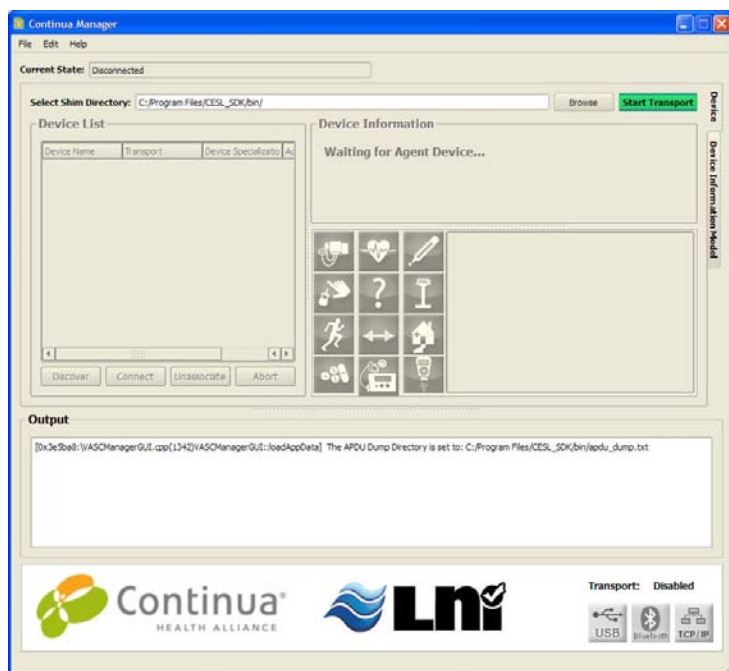

Figure 21. Continua Manager
2. Start the Continua Manager GUI software as shown in Figure 21 and click the “Start Transport” button.